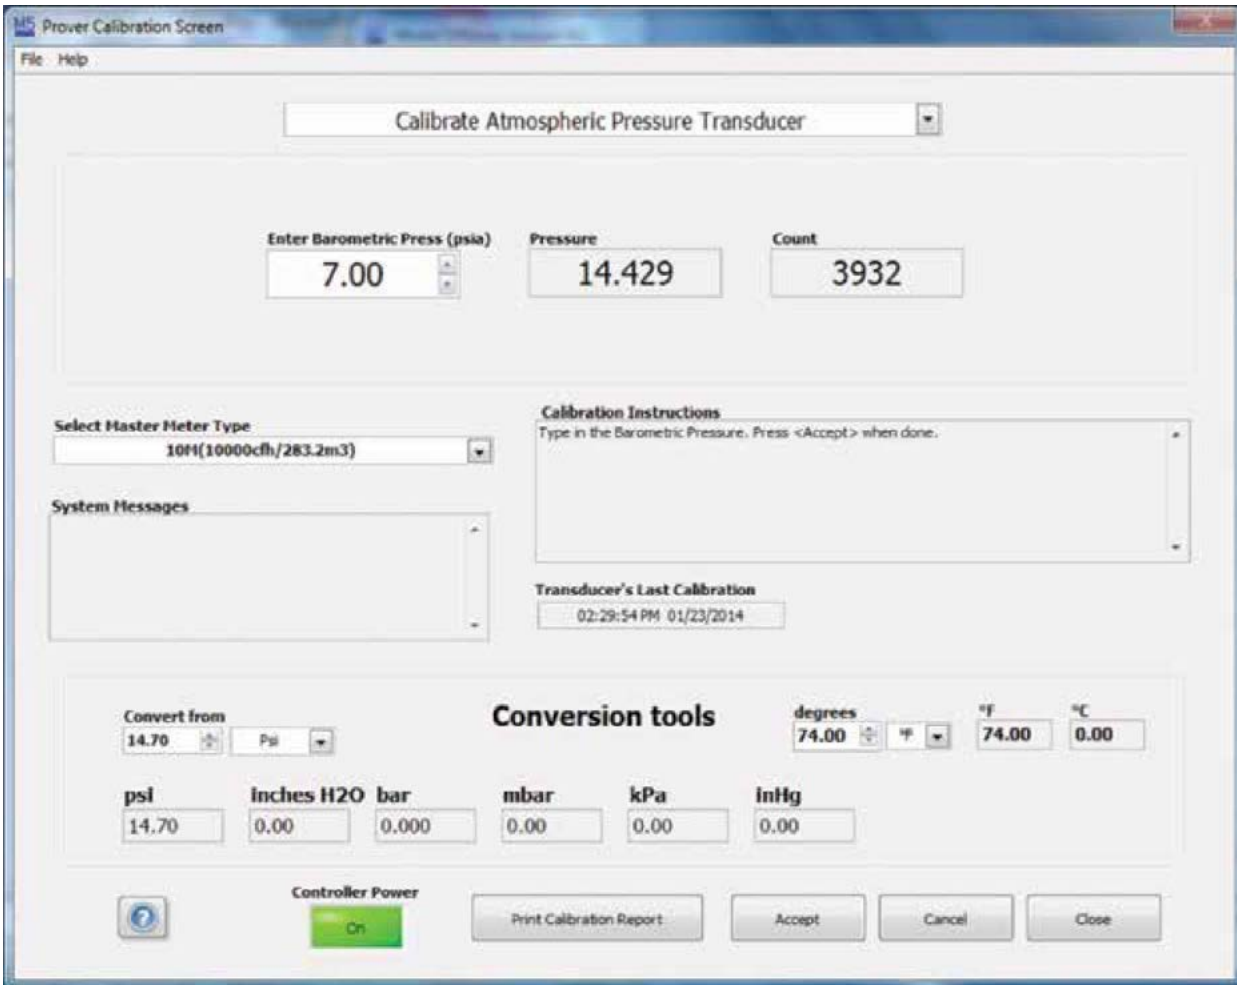

Figure 28: Select Calibrate Atmospheric Pressure Transducer Selection
- From the Prover Calibration Screen, select the pull down arrow and click "Calibrate Atmospheric Pressure Transducer" See Figure 28.